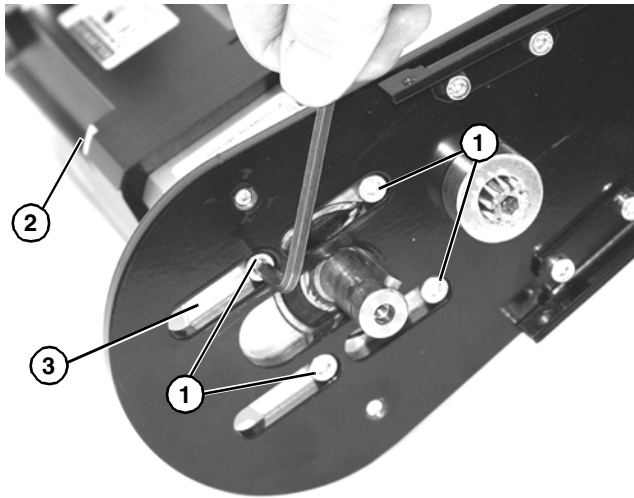

Figure 57
4. Remove four hex head screws (**Figure 57, item 1**), and remove motor (**Figure 57, item 2**) from mounting plate (**Figure 57, item 3**).
5. To install motor, mount with four hex head screws (**Figure 57, item 1**).